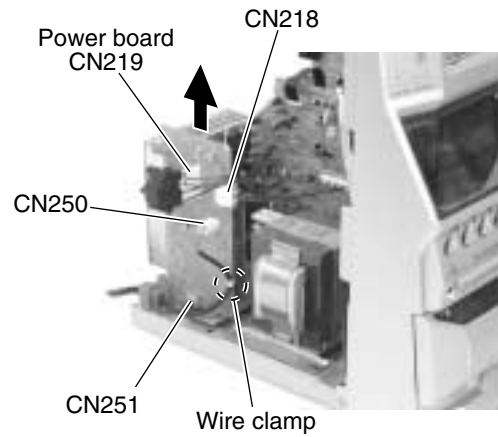

Fig.20
■ **Removing the power board (See Fig.20)**